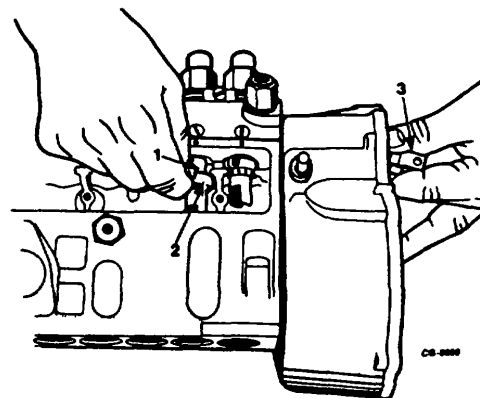

Figure 1. Installing Control Sleeves
8. Install control sleeves on barrels (Figure 1) with all eight centered on rack segments. Check for binding by operating sleeves with control rack and replace any that do.